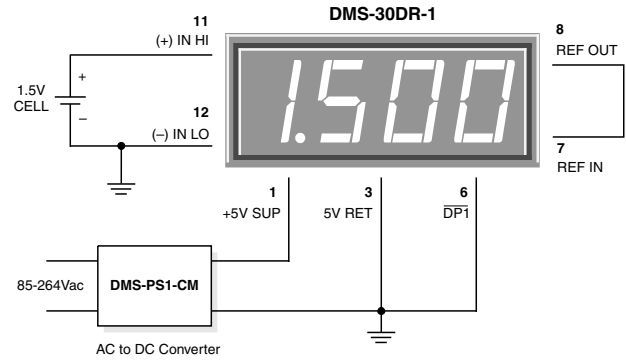

Figure 5. Floating Input Measurements
**4. Floating Signal Source Measurements:** Floating signals can be measured using the circuits shown in Figures 5 and 6. Connecting pin 10 (ANALOG COMMON) or pin 3 (5V RETURN) to (-) INPUT LO (pin 12) provides the reference point for the meter's input.